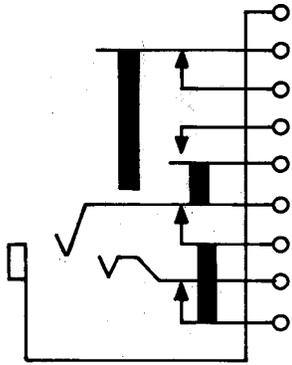

Fig. 23—245AM or CM Jack
2.23 245AM or CM: These single-mounted jacks (Fig. 23) are used with 150, 184, 213, 262, 310, 320, 331, 338, and 349 plugs. These jacks are arranged for use with a 310 or similar-type plug and mounted with the springs in a vertical plane. These jacks are arranged for mechanically wrapped connections.